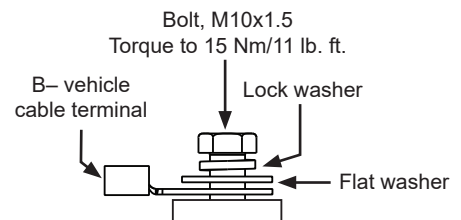

Figure 3: B- Terminal Hardware Stacking Order
6. Connect vehicle B- cable to both alternator B- terminal and install terminal hardware in stacking order shown in Figure 3. Torque hardware to 15 Nm/11 lb. ft.